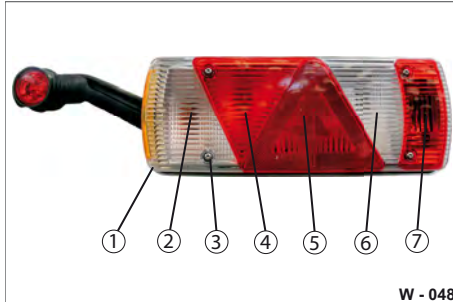

Fig. 51 Tail light components
- ▶ Unscrew the 4 fixing screws (Fig. 51/3).
- ▶ Remove the outer light lens (Fig. 51/1). Remove them carefully.
- ▶ Screw on the fixing screws (Fig. 51/3). Tighten the screw connections with max. 1.5 Nm tightening torque. Cracked light lenses must be replaced.